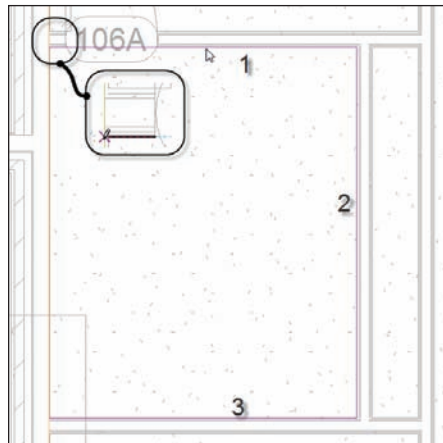

FIGURE 6.41 Placing the three split lines around the perimeter of the lavatory
6. Draw the three lines as shown in Figure 6.41 (you may have to trim and extend the lines).
WARNING Because the line you are splitting is up against the edge of the slab (as shown in the magnification in Figure 6.41), the actual floor's edge serves as one of the split lines. When you are adding the three additional lines, you *must* be snapped to the edge of the floor. There can be no overlaps or gaps.